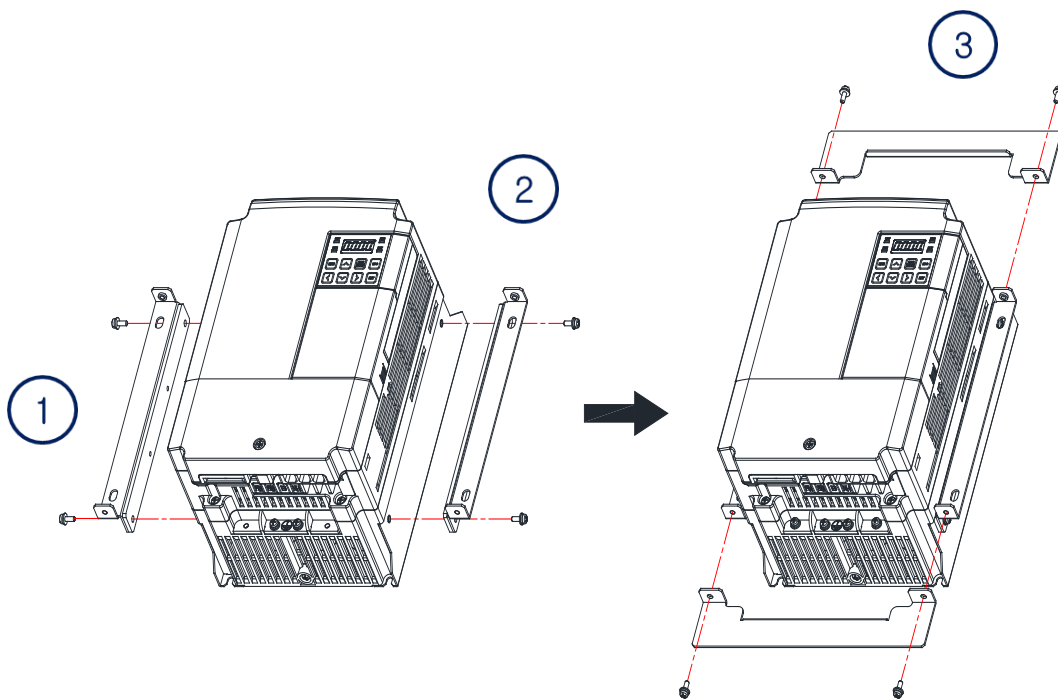

Figure 2. Install and Side Viewing
① Insert the Flange Option to fit on the product side Base fastening the both sides positions as shown in the Figure 2..
② Using the included Bolt and tighten with the specific torque to prevent loose.
③ Fasten the Flange Option with the reminder using included Bolt.